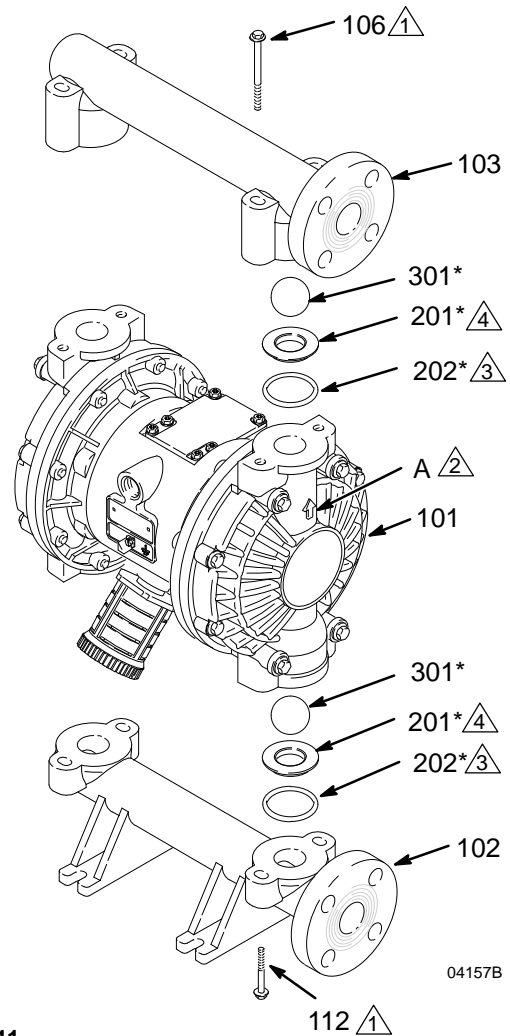

Fig. 11
3. Using a 10 mm socket wrench, remove the four bolts (106) holding the outlet manifold (103) to the fluid covers (101). See Fig. 11.
4. Remove the seats (201), balls (301), and o-rings (202) from the manifold.
2. Reassemble in the reverse order, following all notes in Fig. 11. Assemble the ball checks **exactly** as shown. The arrows (A) on the fluid covers (101) **must** point toward the outlet manifold (103).
- 2  Arrow (A) must point toward outlet manifold (103).
- 4  Beveled seating surface must face ball (301).